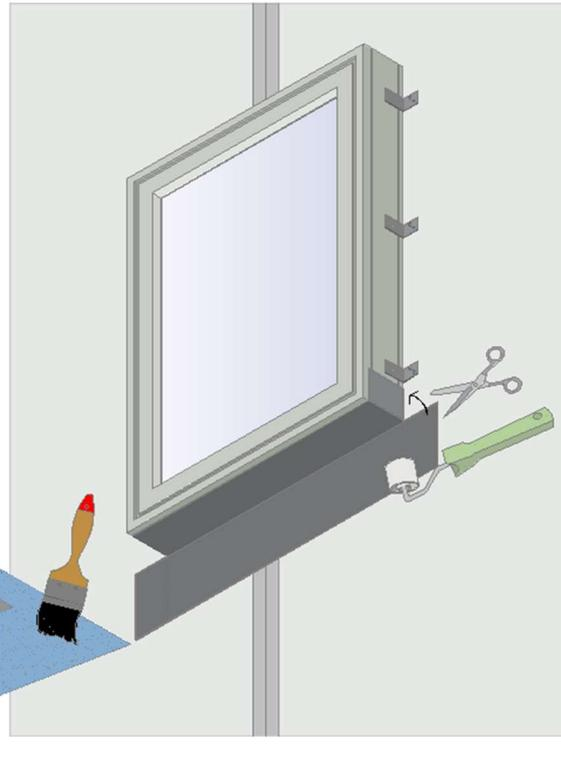

Figure 8
- After flashing off, both bonded surfaces must be connected. Carefully press into position. The edges of the membrane will need to be cut towards the corners of the frame to allow the top edge of the membrane to fold upwards and bond on to the window jamb. (Figure 8).
- When in position consolidate thoroughly using a seam roller (Figure 8).